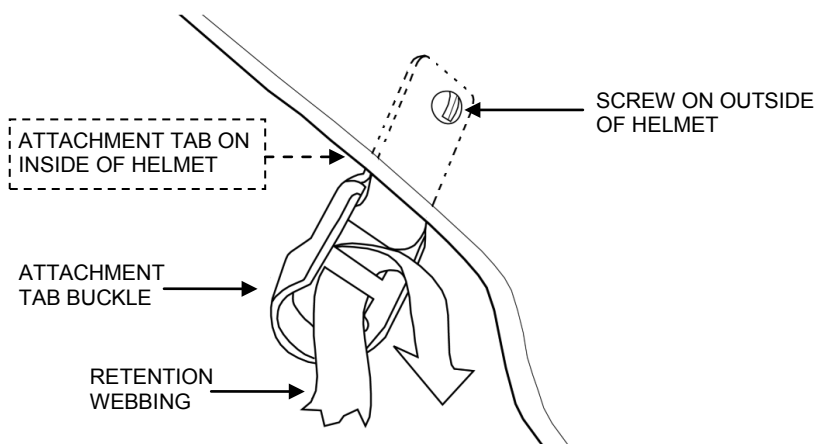

Figure 6. H-Back Retention System Breakout.
8. Attach the replacement retention assembly to the helmet using the hardware provided (Figures 6 and 7). If the helmet has elastic bands along the webbing, slide the bands over the loose ends of webbing to secure.